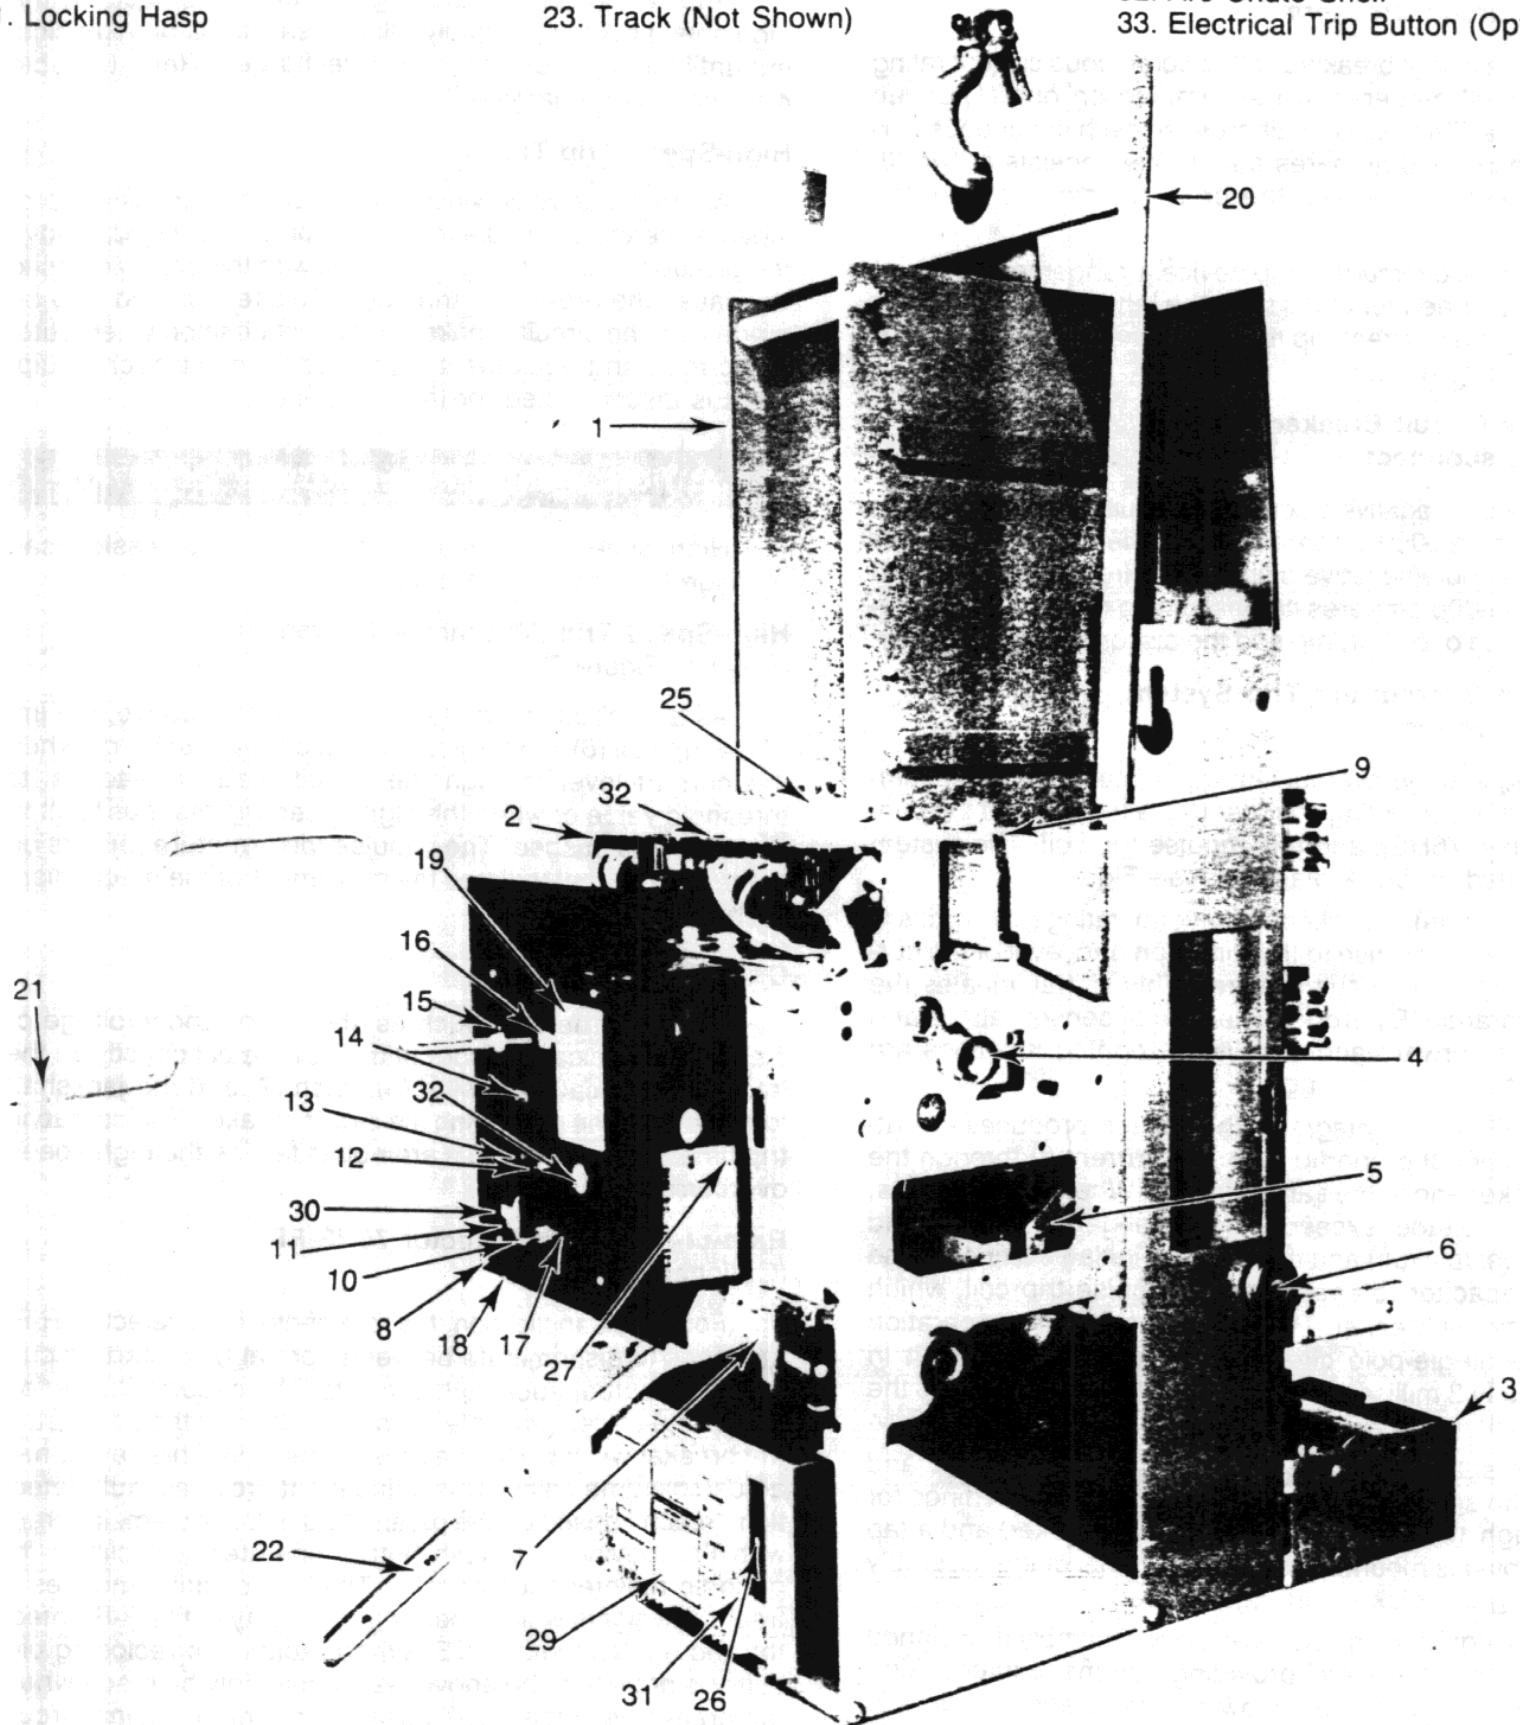

Fig. 1 — FBK-H Drawout D-C
A drawout type FBK-H 4000, single pole, is shown in Figure 1, with a typical schematic diagram shown in Figure 12.
Once the circuit breaker has been removed from its shipping crate, it should be kept in the upright position and placed on a flat surface to avoid damage to breaker parts. For safety, all handling in this position should utilize a lifting yoke (Figure 1, Item 20): CAUTION CAUTION Do not push against or lift the circuit breaker by its arc chute.
The controls and indicators (Figure 1) included on the escutcheon face plate are: (19) nameplate giving the rating assigned to the particular circuit breaker, (13) manual trip button, (12) electrical close push button switch, (10) motor disconnect switch, (14) "OPEN" and "CLOSED" position indicator, (11) means for padlocking the circuit breaker in the "CONNECTED", "TEST", or "DISCONNECTED" position and (16) closing spring charge indicator. Maintenance handle (22) is inserted for manual spring charging and maintenance slow closing. An operation counter (30) is furnished on all FBK breakers.
Circuit Breaker Nameplate (Figure 1, Item 19)
Circuit Breaker "Open" or "Closed" Indicator (Figure 1, Item 14)
Manual Trip Button (Figure 1, Item 13)
Padlocking Device (Figure 1, Item 11)
Closing Spring Charge Indicator (Figure 1, Item 16)
Auto-Trip Indicator (Optional) (Figure 1, Item 17)
Motor Disconnect Switch (Figure 1, Item 10)
Electrical Close Push Button (Figure 1, Item 12)
Operation Counter (Figure 1, Item 30)
The racking mechanism is used to move the circuit breaker to any one of its three positions ("CONNECTED", "TEST", or "DISCONNECTED"). All of these positions are attainable with the cubicle door closed. The racking shutter (15, Fig. 1), which must be lifted to gain access to the racking mechanism, is interlocked with the circuit breaker so that the circuit breaker contacts must be open before the shutter can be lifted to rack the circuit breaker to another position. The circuit breaker cannot be closed when the shutter is open. The circuit breaker may be padlocked open by means of the locking hasp. This automatically locks the racking mechanism.
As described in the electrical operation, above, the impulse trip coil (6) is energized by capacitive discharge when the current level through the circuit breaker reaches its threshold value or when the high-speed trip test pushbutton (31, Fig. 1) is pushed. The impulse trip armature (3) acts on the tripper (4) that initiates the movement of the mechanism to the open position.
Auxiliary Switches (Figure 1, Item 2)
Installation (Stationary Type) (Refer to Fig. 1)
Lifting yoke (20, Fig. 1) can be used to move the breaker to the installation location.
Installation (Drawout Type) (Refer to Fig. 1)
Control Power On (Refer to Fig. 1)
(Refer to Fig. 1)
De-energize both primary and control circuits before making any inspections, adjustments, or replacements of parts. Make certain that the circuit breaker is open and that the closing springs are discharged by observing their indicators on the front escutcheon (14 and 16, Figure 1).